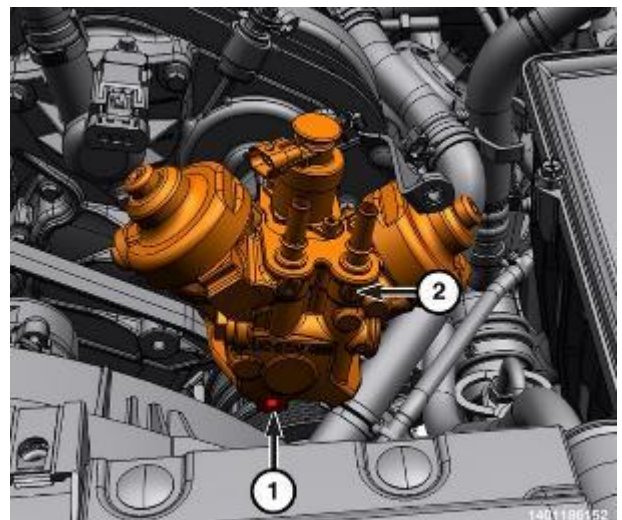

Figure 133 – HPFP Lower Bolt
- 71. Remove the lower bolt (1) from the HPFP (2) and slide the pump away from the engine as far as possible (Figure 133).
- 80. Install the pump to the engine using the pins as a guide. Install the lower fuel injection pump bolt (1) and hand tighten the bolt (Figure 133).
- 82. Tighten the bolts (1) that secure the fuel injection pump to 25 N·m (18 ft. lbs.) (Figures 133 and 132).